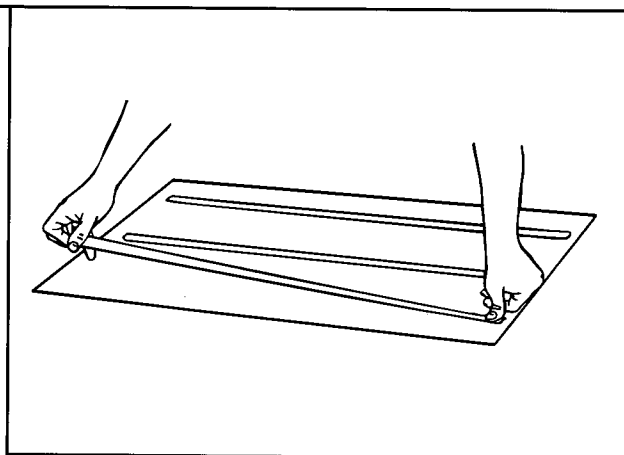

Figure 61
- a. Add three strips of masking tape to back side of decorator panel to prevent scratching refrigerator door. See Figure 61.